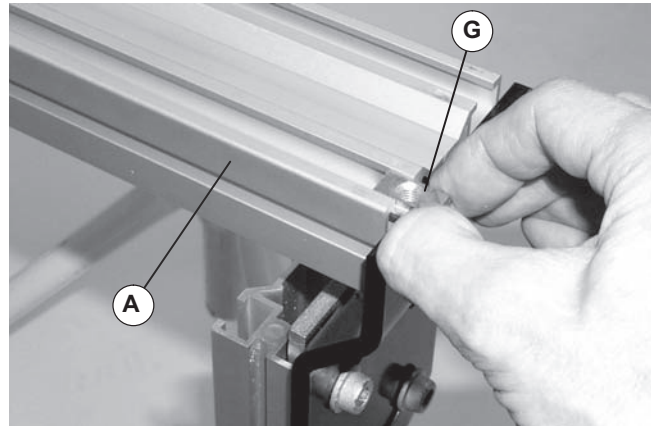

Figure 6
1. Slide two t-bar drop-ins (Figure 6, item G) into each channel in crossmember (A).